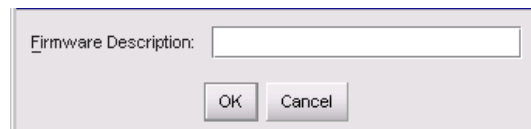

Figure 4-43 New Firmware Description Dialog Box
19. Select the desired firmware version file (downloaded in step 1) from the management server diskette drive or hard drive. Ensure the correct directory path and filename appear in the *File name* field and click *Save*. The *New Firmware Description* dialog box displays (Figure 4-43).